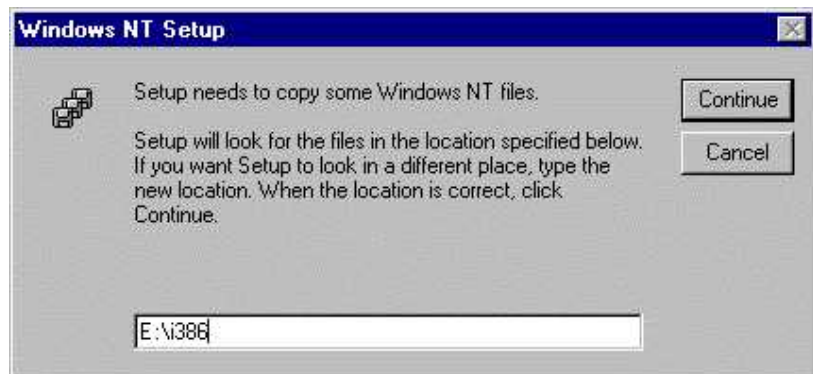

Fig. 8-24
- If you are prompted to enter the path in the "Windows NT Setup" dialog box, enter the path for the "i386" directory in the Windows NT 4.0 workstation CD (Fig. 8-24).